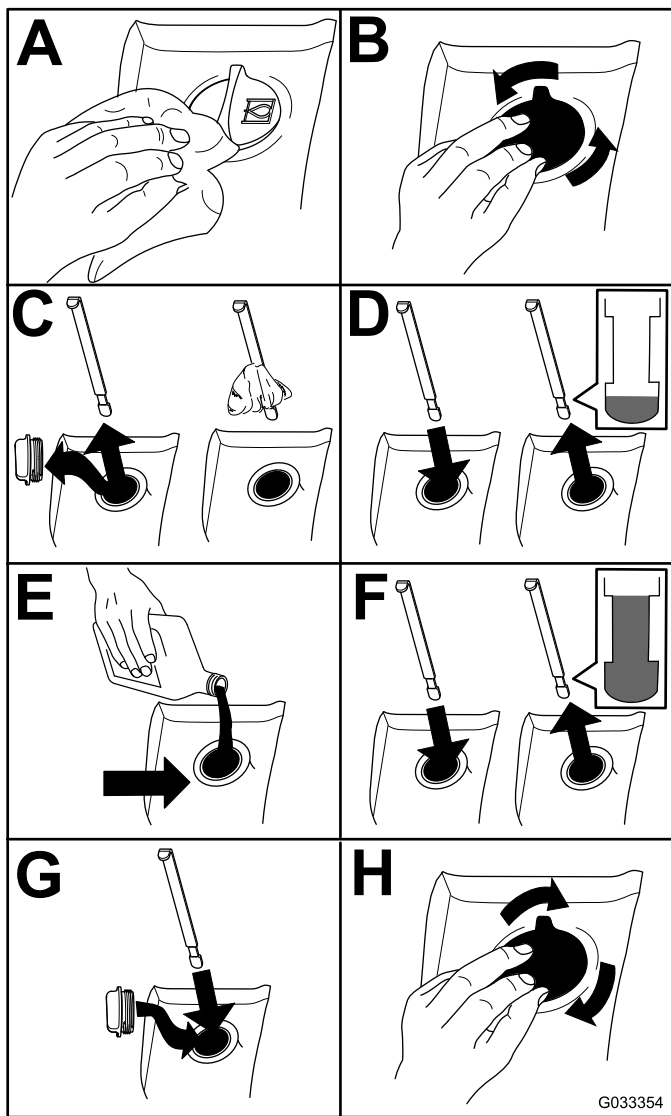

Figure 95
2. Check the hydraulic-fluid level (Figure 95).